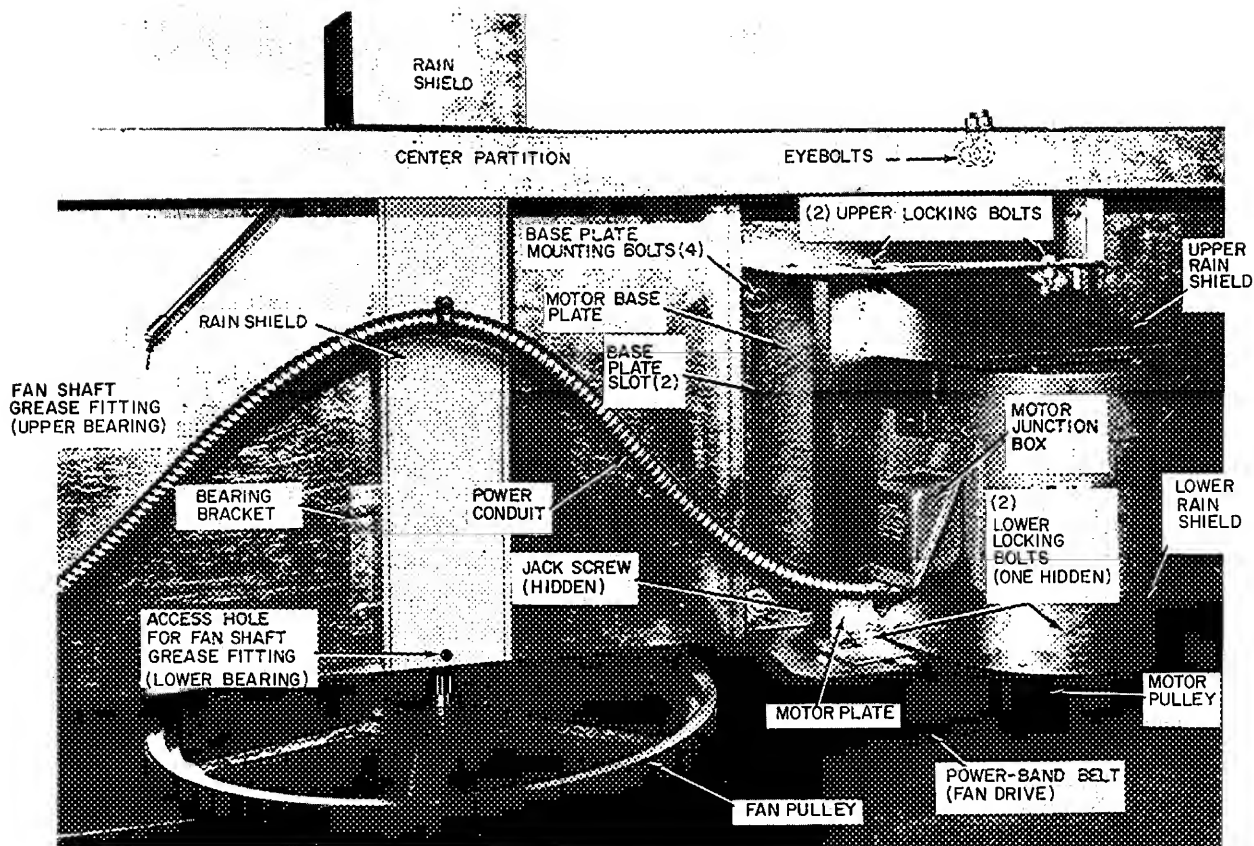
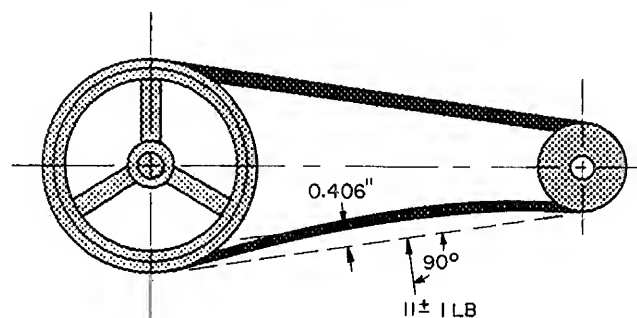

Fig. 5 – Fan Motor and Drive (Fan Motor No. 2 Shown)
Fig. 6 – Belt Tension
Fan Motor Removal (refer to Fig. 5) – Before starting, be sure power to the unit is disconnected. Remove the lower screen panels on the side opposite the cooler. Viewed from this side, fan no. 2 is on the left and fan no. 1 is on the right. Fig. 5 shows motor and drive for fan no. 2.
Belt Tension Adjustment (Fig. 5 and 6) – Loosen the upper and lower motor-locking bolts. With the jack screw, adjust the belt tension to 11 lb at .406-in. deflection as shown in Fig. 6, using a standard belt-tension gage. Tighten the upper and lower motor-locking bolts.
Fan Shaft Bearing Lubrication (see Fig. 5 and 7 for location of grease fittings) — Bearings should be lubricated every 4 months. Use Texaco Regal AFB-2 (Carrier Specification PP80-15). Both the upper and lower bearings can be greased from below. Feed the grease slowly until it starts to come out at the bearing seals.
Fan Shaft Removal and Installation — To remove the shaft, proceed as follows (refer to Fig. 5 and 7):
3. Loosen the motor locking bolts and back off the jack screw behind the motor (see Fig. 5) to relieve belt tension. Remove the belt.